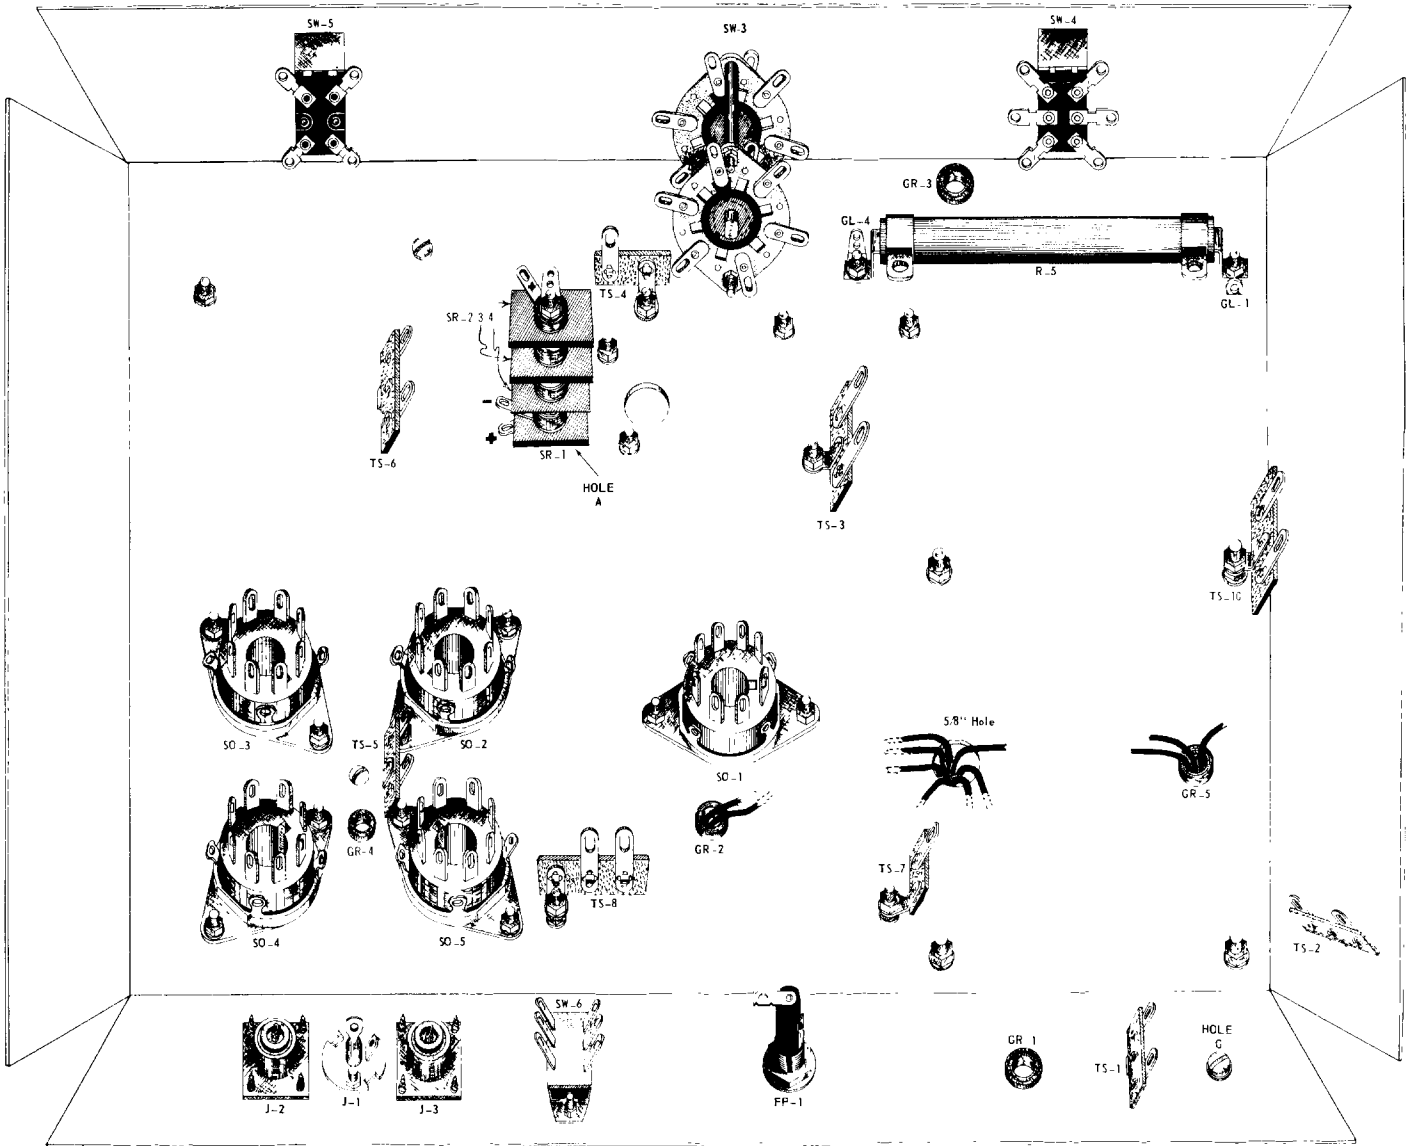

Figure 3. Bottom View, Parts Mounting.
- 2. Lay the punched chassis before you as per Figure 3.
- 3. Install a mica filled octal socket in the chassis hole marked S0-1. The socket should be mounted on the inside of the chassis. Position the socket key way as shown in Figure 3. Use two each 6-32x5/16" screw, #6 lockwashers and
- 5. Insert the 3/8" rubber grommets GR-1, GR-2, GR-3, GR-4 and GR-5 in their respective holes as per Figure 3.
- 6. Remove the large nut and lockwasher from the fuse retainer post FP-1. Insert the post into its hole, position the lugs as per Figure 3. Slip the large lockwasher over the post and add the large hex nut. Tighten securely without using undue pressure as the post will crack if tightened excessively. Refer to Figure 1 on page 8.
- 7. Install the DPDT slide switch SW-6 from inside the chassis. Use two each 4-40x3/8" screws and 4-40x3/16" hex nuts. Tighten securely. Refer to Figure 3.
- (a) Insert the threaded shank of the receptacle through its respective hole from inside the chassis. Position as per Figure 3. Align the four mounting holes.
- 9. Install the R.F. input jack J-1 from inside the chassis. Position as per Figure 3. Use two each 6-32x5/16" screws and 6-32x1/4" hex nuts. Tighten securely.
- 12. Install the 2-lug tie strip TS-1. Position as per Figure 3. Use a 6-32x5/16" screw, a #6 lockwasher and a 6-32x1/4" hex nut. Tighten securely.
- 13. Install the 2-lug tie strip TS-2. Position as per Figure 3. Use a 6-32x5/16" screw, a #6 lockwasher and a 6-32x1/4" hex nut. Tighten securely.
- 14. Install the 2-lug tie strip TS-3. Position as per Figure 3. Use a 6-32x5/16" screw, a #6 lockwasher and 6-32x1/4" hex nut. Tighten securely.
- 15. Install the 1-lug tie strip TS-4. Position as per Figure 3. Use a 6-32x5/16" screw, a #6 lockwasher and a 6-32x1/4" hex nut. Tighten securely.
- 16. Install the 2-lug tie strip TS-5. Position as per Figure 3. Use a 6-32x5/16" screw, a #6 lockwasher and a 6-32x1/4" hex nut. Tighten securely.
- 17. Insert the metal end brackets into the ends of the 50K ohm, 50 watt resistor R-5. Insert a 6-32x5/16" screw into each of the respective mounting holes from the outside of the chassis. Add #6 solder lugs GL-1 and GL-4 from the inside of the chassis. Mount resistor R-5 in position as per Figure 3. Add a #6 lockwasher and a 6/32x1/4" hex nut to each of the screws. Position solder lugs GL-1 and GL-4 as per Figure 3. Tighten the hex nuts securely.
from the top side of the chassis. Mount selenium rectifier SR-1 on this screw from the under side of the chassis. The positive (+) lug of the rectifier should be towards socket SO-2 as per Figure 3. Add the three connected rectifiers SR-4, SR-3 and SR-2 to the screw. SR-4 should bear against SR-1. The plus (+) sign on the positive lug of SR-2 should be visible after the rectifiers are mounted.
23. Position rectifiers SR-1, SR-4, SR-3, SR-2 and the solder lug as per Figure 3. Tighten the nut securely.
24. Mount the filter choke CH-1 on the top of the chassis. Insert the choke leads through grommet GR-2. Use two each 6-32x1/2" screws, #6 lock washers and 6-32x1/4" hex nuts to mount the choke. Tighten securely. Refer to Figures 3 and 5.
30. Slip a #6 lockwasher over a 6-32x1/4" screw. Insert the screw into the mounting hole of the 2-lug tie strip TS-6. Thread the screw into the bottom rear mounting hole of variable capacitor C-11. Position tie strip TS-6 as per Figure 3. Tighten the screw securely.
31. Mount the 1-lug tie strip TS-7 on the mounting screw of filter choke CH-1 and position as per Figure 3. Slip a #6 lockwasher over the screw, add a 6-32x1/4" hex nut and tighten securely.
32. Mount the specially cut 2-lug tie strip TS-8 on the other mounting screw of filter choke CH-1. Position as per Figure 3. Slip a #6 lockwasher over the screw, add a 6-32x1/4" hex nut and tighten securely.
34. Mount the 2-lug tie strip TS-10 (with a 3/16" mounting hole) on the mounting screw of transformer T-1 as per Figure 3. Slip a #10 lockwasher over the screw, add a 10-32x5/16" hex nut, position as per Figure 3 and tighten securely.